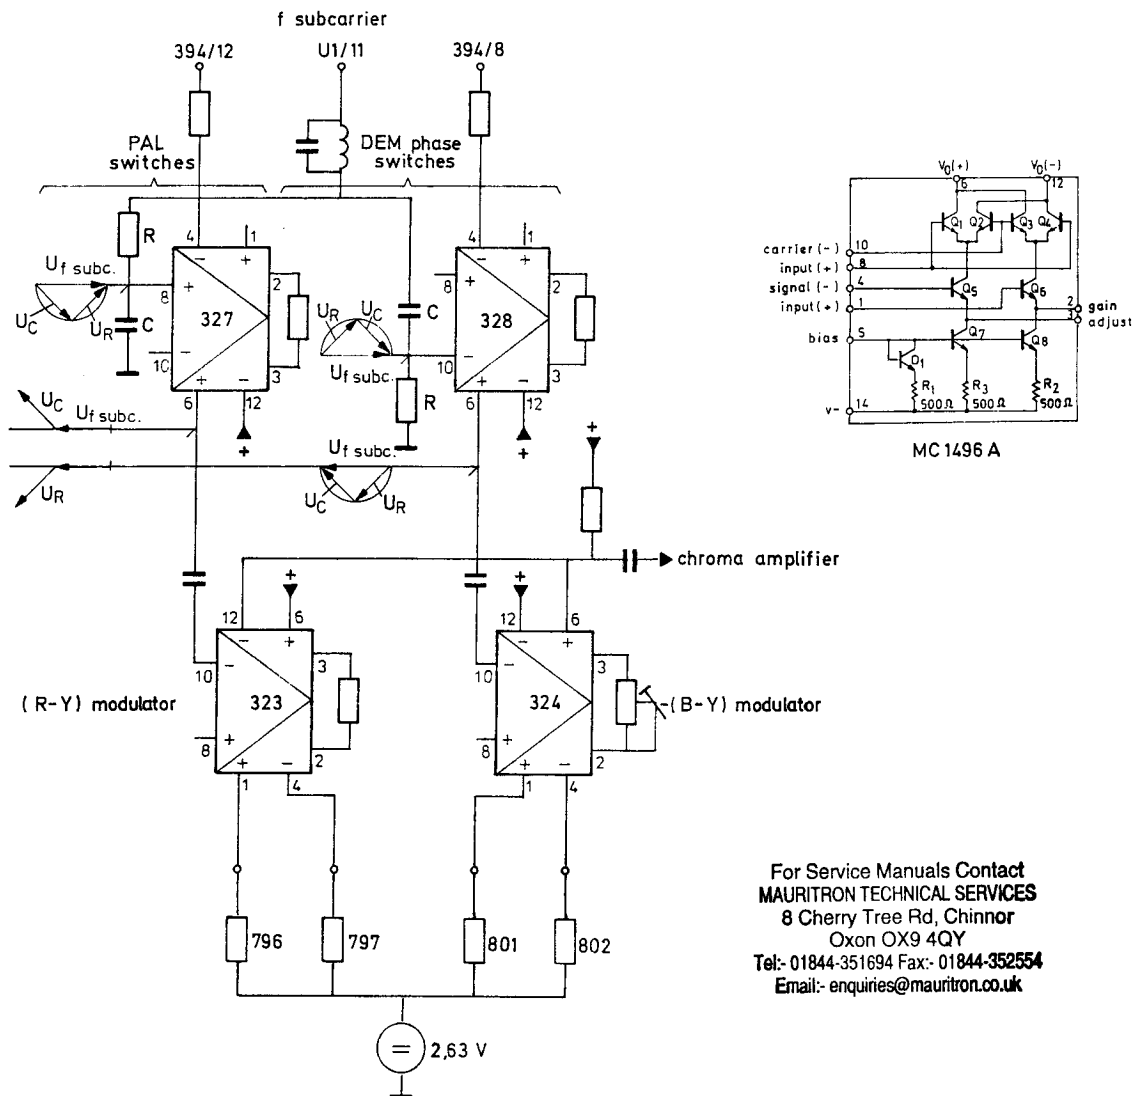

Fig. 18 Colour difference modulators and phase switches of the colour carrier frequencies
## 2.2.8. Synthesis of the chroma signals, fig. 18
- 2.2.8.1. The **chroma modulator** (fig. 18) consists of 2 output-coupled four quadrant multiplier 323 and 324/U10. The plus and minus signs are pointing out the directions of the input signals with respect to the outputs. The colour carrier frequency ( $f_{sub}$ ) having passed the phase switches 327, 328 are applied to the chroma modulators 323 and 324, whereby the phase shift of  $f_{sub}$  at the two different modulator inputs is  $90^\circ$ . The colour carrier frequencies phase shifted by  $90^\circ$  are multiplied with the colour difference signals (R-Y) and  $-(B-Y)$  in the (R-Y) and (B-Y) modulator. The correct amplitude relationship [(R-Y) to (B-Y)] is adjusted by potmeter 811, the residual colour carrier by 800 and 809.
The phase of the outputs 327/6 and 328/6 can be switched to  $0^\circ$  or  $180^\circ$  depending on the digital signals at the inputs 327/4 and 328/4. Low level e.g. at 327/4 cuts off the dc current source Q5 and so the transistors Q1 and Q2 (see fig. 18, detail MC 1496 A), the whole current of Q7, Q8 passes Q6. The output pin 6 obtains the polarity of Q3, and the negative polarity of Q1, if there is a high level at the input 327/4.